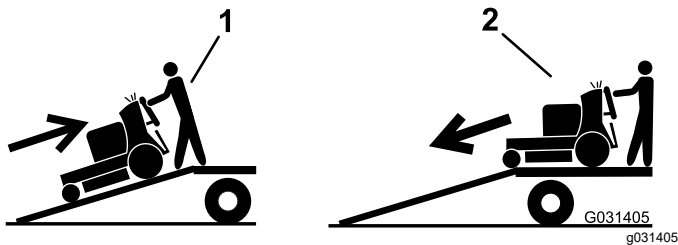

Figure 30
5. Back the machine up the ramp (Figure 30).